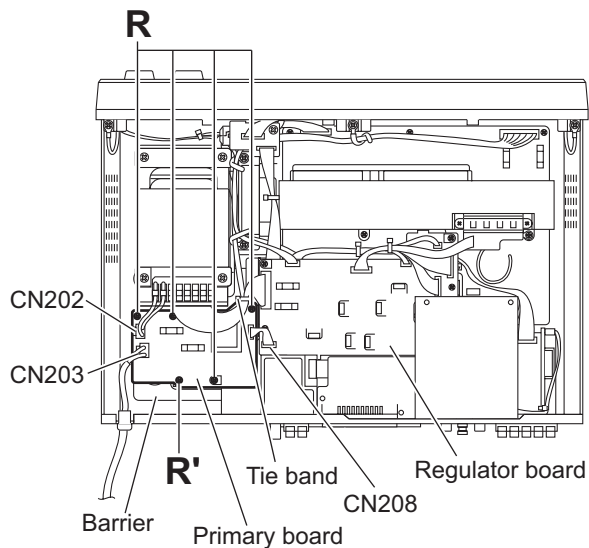

Fig.15
3.1.15 Removing the primary board (See Fig. 15)